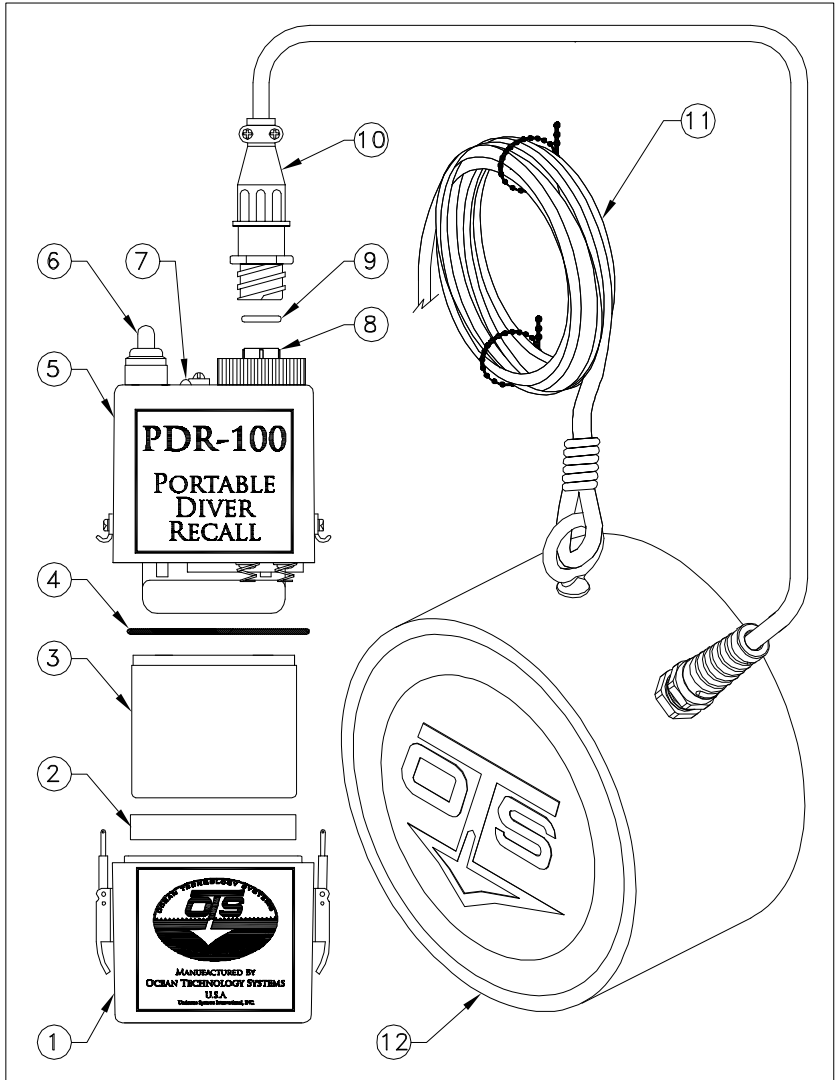

Figure 1. Features of the PDR-100
Refer to Figure 1.
1. Ensure RB-14 Battery (Fig. 1, #3) is fully charged, or if using a SCB-1 eight-cell AA battery pack, ensure fresh AA alkaline batteries are installed. Refer to Section 3 (Battery Installation and Charging). Ensure all o-rings (Fig. 1, #4 & #9) are free of debris and in good condition.
2. Locate the Speaker Amp connector (Fig. 1, #10) on the end of the PDR-100 speaker cable and ensure that the o-ring (Fig. 1, #9) is present, free of debris and in good condition. Mate the speaker Amp connector to the upper housing's Amp connector (Fig 1, #8).
3. Strain-relieve the PDR-100 speaker cable by securing the rope (Fig. 1, #11) about every 12 inches to the cable. Polyken vinyl gaffers tape is recommended.
2.2.1 POWER ON: To activate the unit's power, connect the PDR-100 speaker Amp connector (Fig 1., #10) to the upper housing connector (Fig. 1, #8). The LED (Fig. 1. #7) illuminates *green* when the unit is on and in standby mode.
2.2.2 TRANSMISSION: For tone transmission, move the Siren/Tone Toggle Switch (Fig. 1, #6) either towards the upper housing's belt clip for *continuous tone* or away from the belt clip for *siren tone*. The LED (Fig. 1, #7) illuminates *red* when the PDR-100 is transmitting.
The PDR-100 Portable Diver Recall System is equipped with a rechargeable, RB-14 battery (Fig. 1, #3) and comes with an RCS-15 smart charger. It is not necessary to remove the batteries to recharge the system.
When the LED (Fig. 1, #7) begins to flash *red*, the battery voltage has decreased to 10 volts. At this point, the unit has approximately 2 hours of battery life assuming a 20% duty cycle. The LED will flash *red* more rapidly when the battery voltage has decreased to 8 volts. At this point, the unit has approximately 1 hour of battery life assuming a 20% duty cycle. Although the PDR-100 can operate with as little as 7.5 volts, we recommend that you recharge the batteries (Section 3.1) as soon as possible after the LED starts to blink *red*. If the batteries no longer hold a charge, replace them (Section 3.2).
1. Connect the RCS-15 smart charger amp connector to the electronic housing amp connector (Fig. 1, #8).
To install or replace the batteries, follow these steps (refer to Figure 1 for the indicated item numbers):
1. Clean and lightly grease the o-rings of the speaker connector (Fig. 1, #9) and upper and lower housings (Fig. 1, #4). Check them for cracks or damage. Replace them if necessary.
2. Keep the PDR-100 Speaker (Fig. 1, #12) clean.